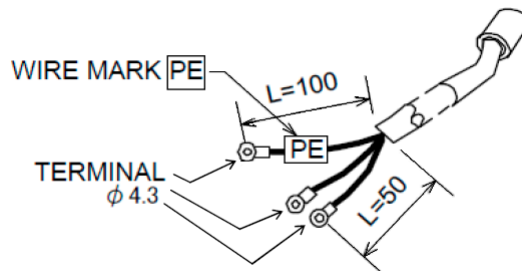

Fig.5-11 Power Cable
- (1) Connect the power cable terminal to the terminal board of customer's power distribution board for equipment. The wire with [PE] mark is for earth use and other remaining two wires are for single phase AC power. (Refer to Fig. 5-11, Table 5-4)